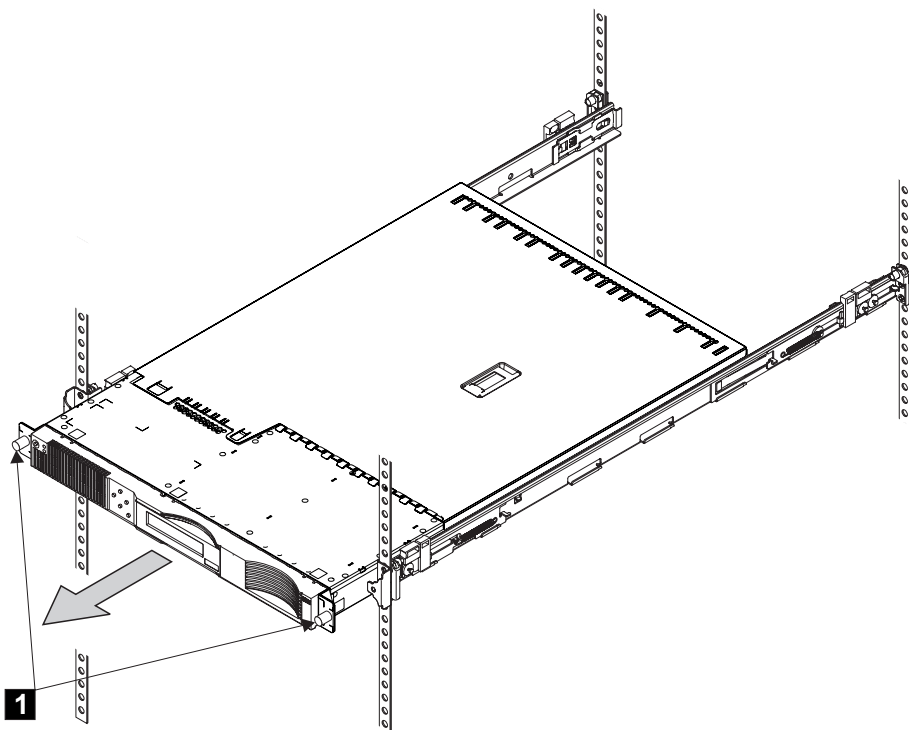

Figure 60. Unscrewing the front screws
4. For the SAN Volume Controller 2145-8F2, unlatch the two latches on the front of the rack. For the SAN Volume Controller 2145-4F2, unscrew the two front screws **1** as seen in Figure 60.